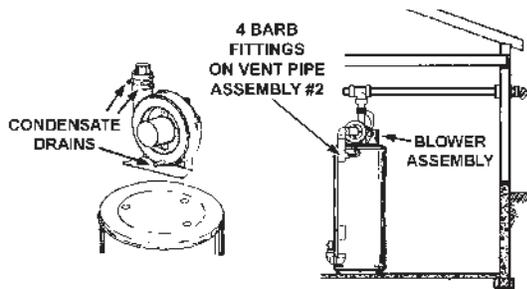

FIGURE 17.
- The blower discharge adapter is made to accept only straight sections of 2" pipe. To start, a minimum of 2 inches (5.1 cm) of 2" pipe must be attached to the blower discharge, see Figure 17.
4. There will be some installations where condensate will be formed in the horizontal runs of the vent system. This condensate will run into the condensate boot attached to the blower and out the fitting. The water heater is shipped with condensate hose that attaches to the fitting on the condensate boot. No other Tee or fitting is required. See Figures 17, 20 and 21.
This water heater is a condensing unit and requires a drain to be located in close proximity to allow condensate to drain safely. One hose from blower housing and two flexible hoses from blower outlet adaptor run to barb fittings on vent pipe assembly #2. Hose is clamped by rubber clips and flexible hoses by a clamp on jacket top cover. See Figure 17. Condensate drains from the unit at the exhaust tee located at the bottom of the unit, see figure 16. Condensate from this water heater is mildly acidic. Please note that some local codes require that condensate is treated by using a pH neutralizing filter prior to disposal.
Condensate is likely to form in the venting system attached to this water heater. The vent pipe should be sloped downward away from the blower assembly (not less than 1/8" (3.2 mm) nor greater than 1/2" (12.7 mm) per foot (30 cm) maximum). If the vent piping is vented level or sloped upwards away from the blower assembly, then adequate means for draining and disposing of the condensate needs to be made by the installer. Two 3/8" condensate hoses should be connected to the built in drain ports of blower outlet adaptor. The unused barb fitting on vent pipe assembly #2 should be plugged with one of the break-away plugs. See Figure 17.
3. Condensate drains from three locations on blower assembly. See Figure 17. One flexible hose runs from bottom of blower housing; two run from the ports of rubber connector at the outlet of blower. All these three condensate hoses are connected to barb fittings at vent pipe assembly #2. The hose from bottom of blower housing is clamped by two clamps and the two hoses from rubber connector are harnessed by another clamp. Make sure there is no kink or twist.